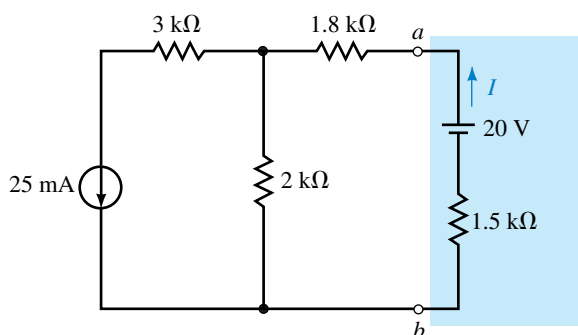

FIGURE 9–89
16. Refer to the circuit of Figure 9–90: